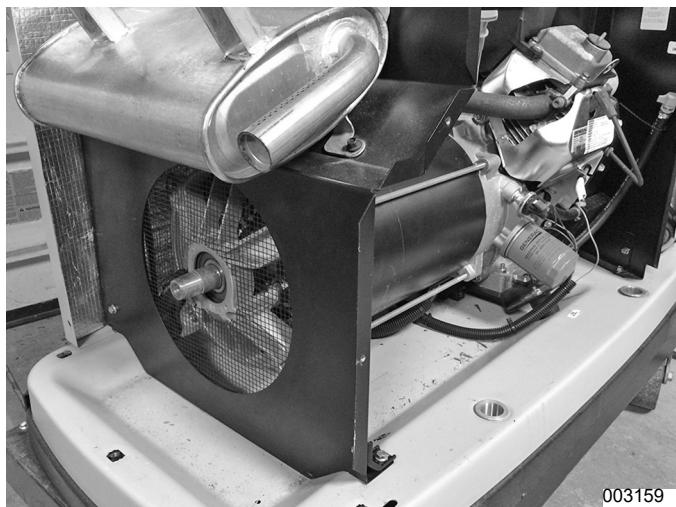

Figure 4-50.
16. **Remove Alternator Divider Panel:** See Figure 4-50. Depending on the unit, use a 10 mm socket or 4 mm Allen wrench to remove two bottom base bolts.